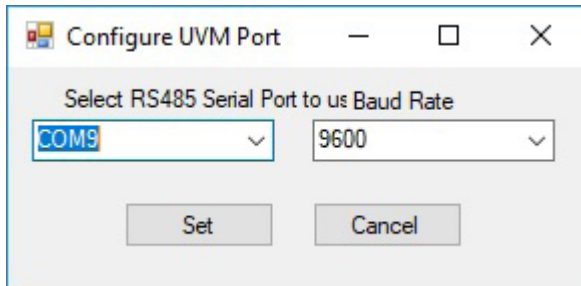

Figure 1. Comms Port dialogue box
7. Within the CommsPort dialogue box, select the communications port that the RS485 is connected to and set the Baud Rate to 9600. Click Set (see Figure 1).